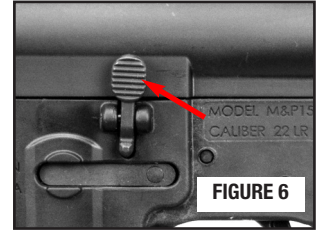

FIGURE 6
- Push the top of the bolt release (FIGURE 6) to allow the bolt to move to its fully forward position.